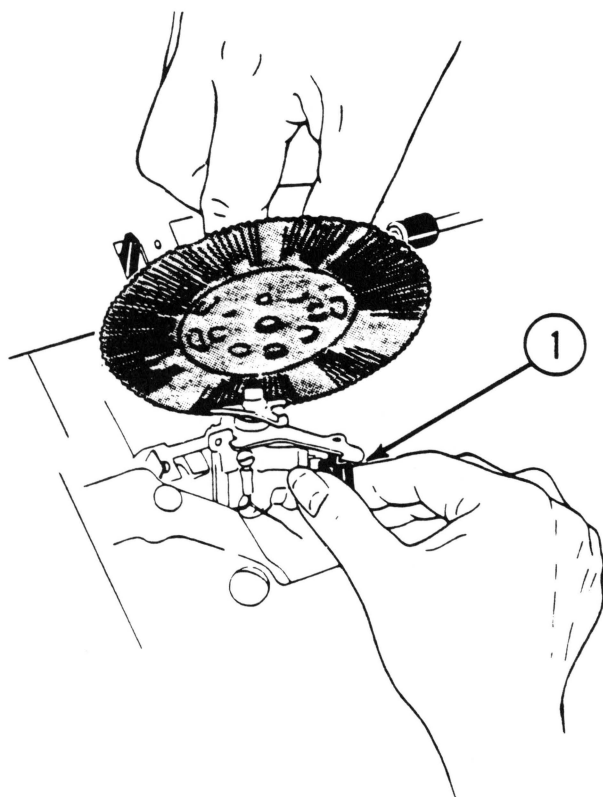

FIGURE 1
2. **To remove the printwheel**, press the lever on the print hammer assembly (see Figure 1, #1) towards the hammer and tilt the assembly back towards you. Grasp the knob in the center of the printwheel and pull the printwheel off the assembly. Set it aside for now.